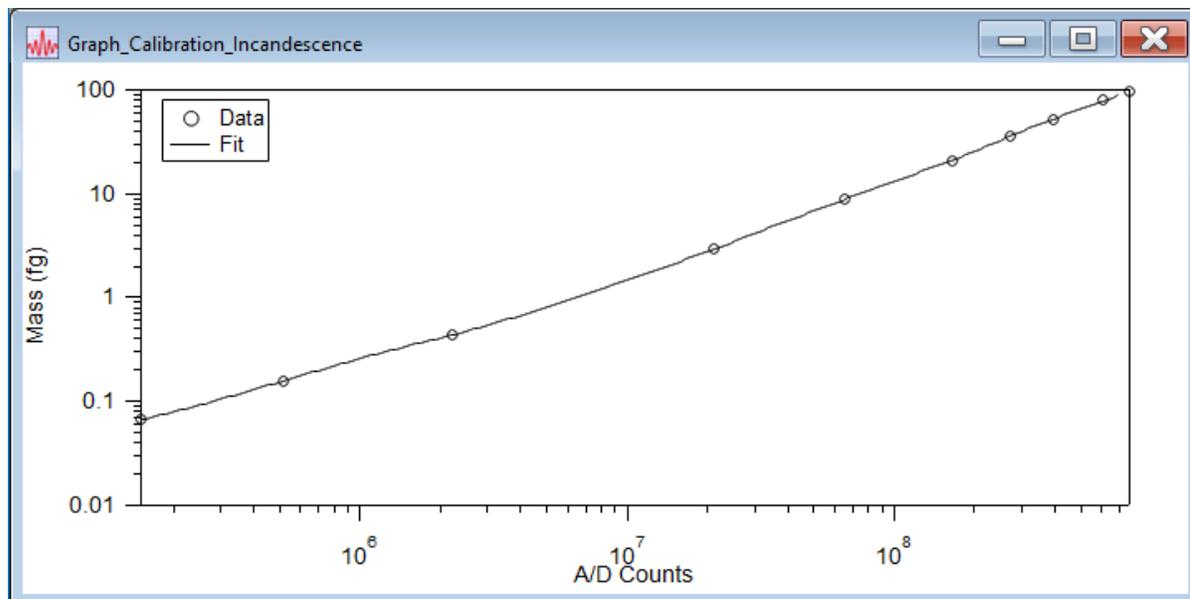

Figure 12: Plot showing calibration response as a function of particle mass.
Clicking on the “**Generate Calibration Curve from Fits**” button, (D) takes the particle mass data and the collected responses generating a plot and fit equation. This is shown in *Figure 12* below.